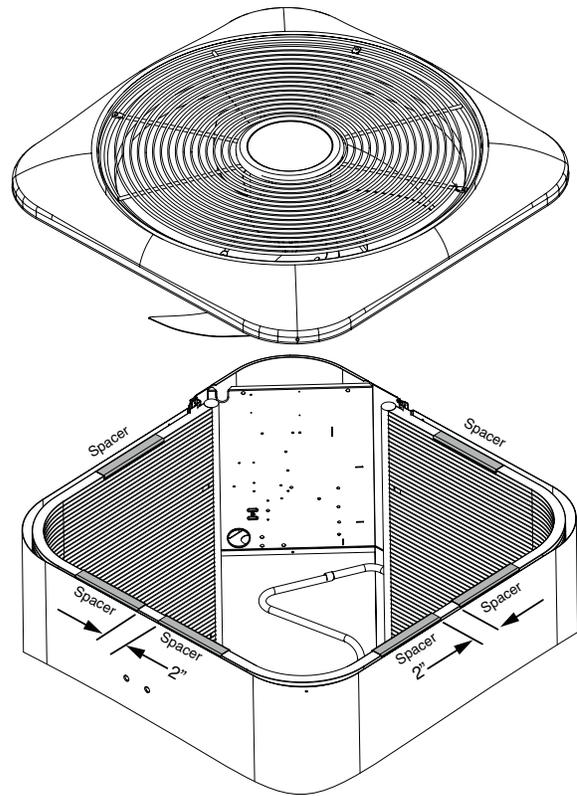

Figure 2. Spacer Kit Locations for Large Footprint Units
4. **For large footprint unit:** Place one long spacer on each short flat face of the coil and two long spacers separated by 2" in each long flat face of the coil. See Figure 2 and Table 1.